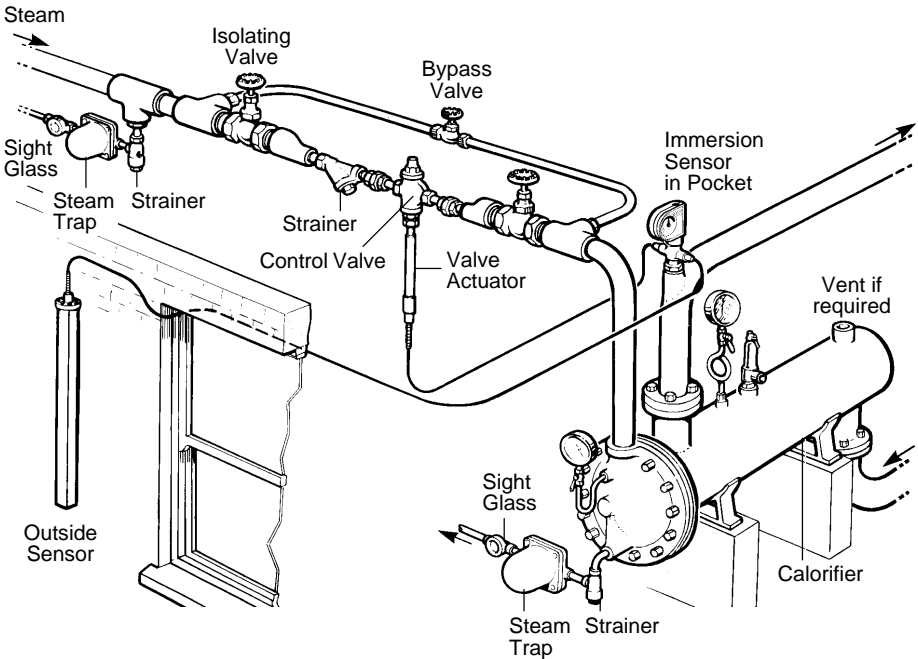
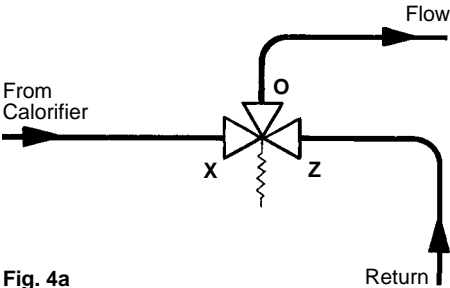
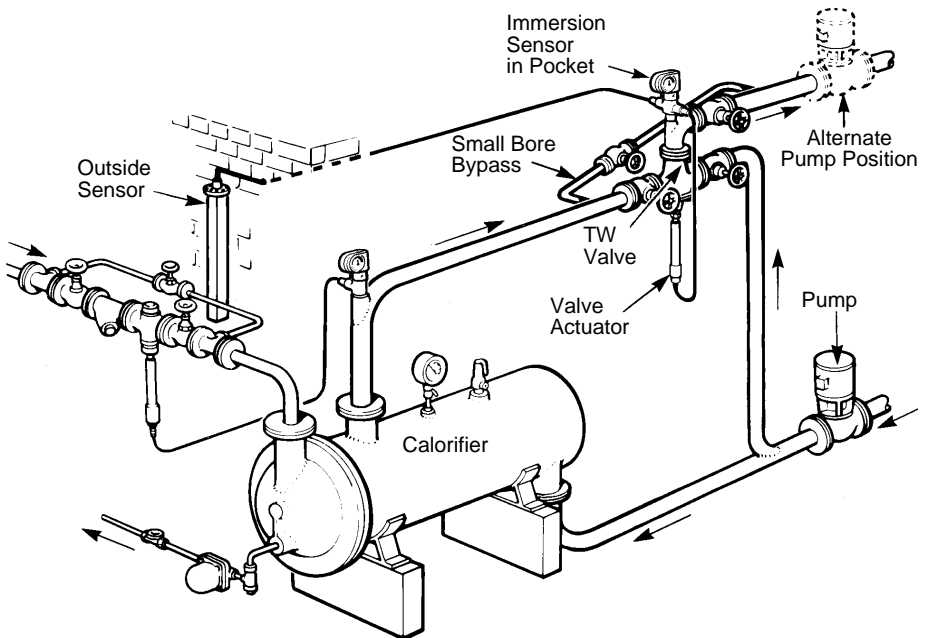

Fig. 2 Typical Installation when the primary medium is steam
Fig. 4a
Fig. 4 Typical installation when the secondary water circulation is controlled
2.1. Fig. 2 shows a typical installation when the primary medium is **steam**.
Any reduction in line size to meet the valve size should be carried out adjacent to the valve as shown in Fig. 2.
3.1. Fig. 4 shows a typical installation. The 3 valve ports are marked X, Z and O. The valve should always be fitted as in Fig. 4a, in a horizontal pipeline with the valve closing element vertically below the line as shown.
3.4. The small bore bypass shown on Fig. 4 is essential and must be set to give a minimum flow through the calorifier when the TW valve is in the fully recirculating position.
Where the primary supply is being controlled as in Section 2 the immersion sensor should be fitted into the calorifier or into the secondary pipeline as close to the calorifier as possible, as shown in Figs. 2 & 3. Where the secondary circuit is being controlled by mixing as in Section 3 the immersion sensor should be fitted into a mixed water outlet from the TW valve is shown in Fig. 4.